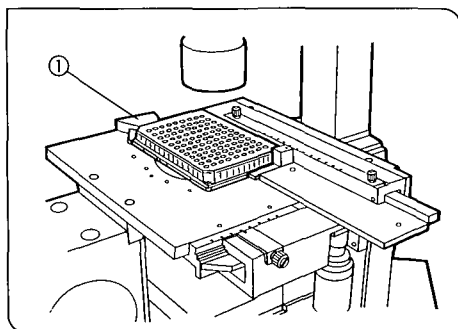

Fig. 59
1. Open the spring-loaded finger of the specimen holder ① and slide the microtiter plate into the holder frame. Gently release the curved finger to clamp. (Fig. 59)